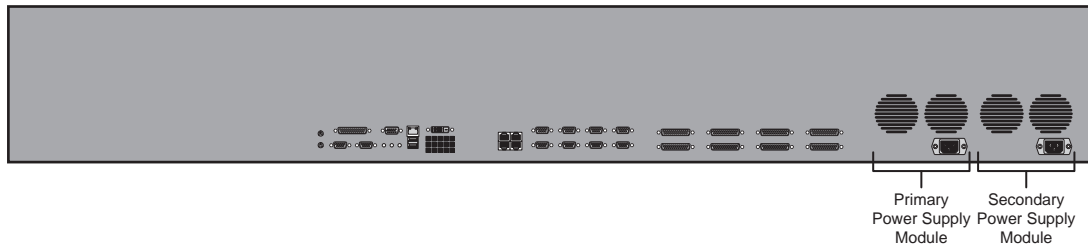

Figure 18.3 Power Supply Modules
1. The **Status Menu** identifies which cooling fan is reporting a failure. Locate that fan on the control panel (**Figure 18.3**). If you have the Redundant Power option installed, **Cooling Fans 1 and 2** are located in the **Primary Power Supply Module** and **Cooling Fans 3 and 4** are located in the **Secondary Power Supply**. If you do not have the Redundant Power option, only the **Primary Power Supply Module** is present.